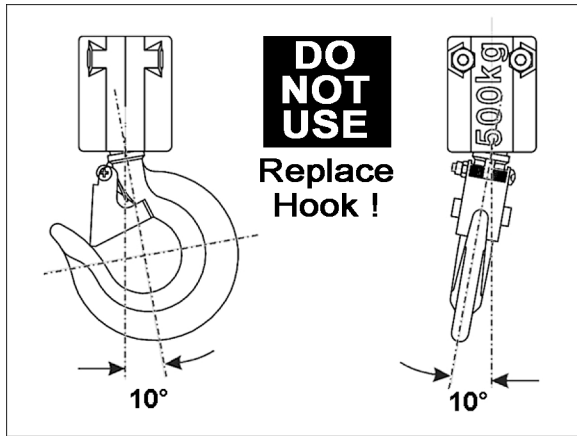

Figure 11-3
- The vertical angle at neck of the hook reaches 10° (see Figure 11-3).